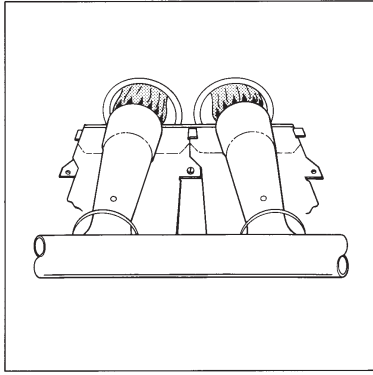

Fig. 31 - Burner Flame Adjustment
- Start your furnace and observe its operation. Watch the burner flames to see if they are clear blue, almost transparent. (See Fig. 31.) If you observe a suspected malfunction, or the burner flames are not clear blue, call your dealer.